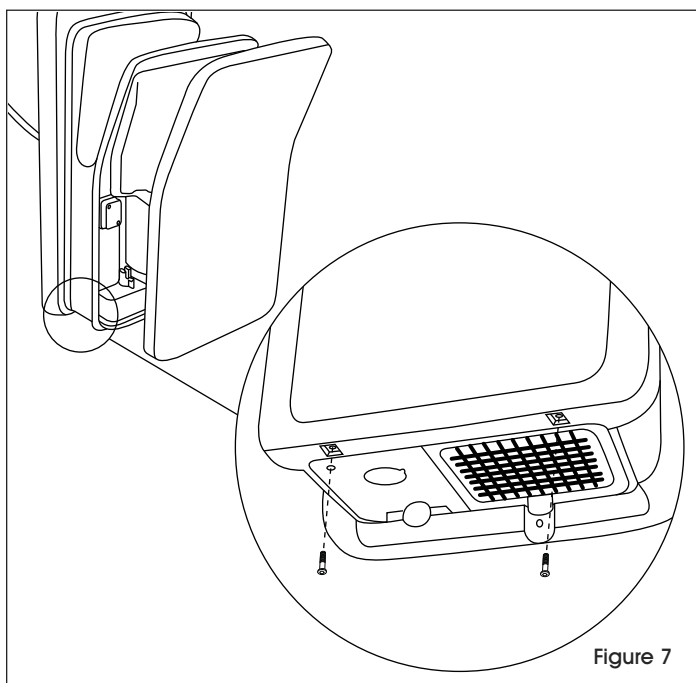

Figure 7
11. After installing cable, replace screws to close cover. (See Figure 7)